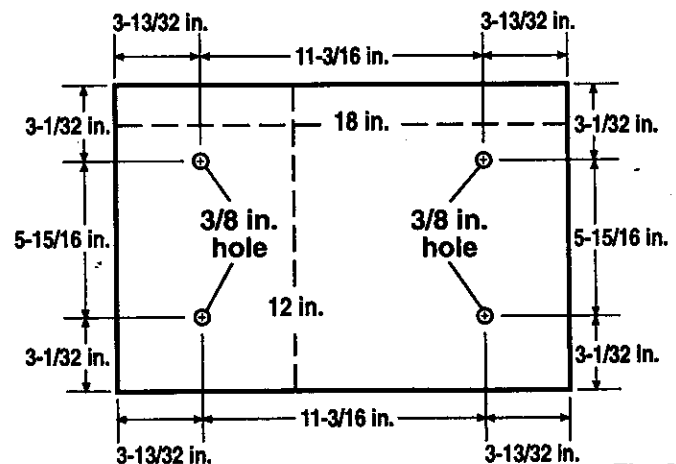

Fig. 9
See Figure 9.
If the band saw is to be used in a permanent application, we recommend that you secure it in a permanent location such as a workbench. When mounting the saw to a workbench, holes should be drilled through the supporting surface of the workbench using the dimensions illustrated in figure 9.
- Mount saw to board using holes in frame as a template for hole pattern or the diagram in Figure 9. Locate and mark the holes where band saw is to be mounted.